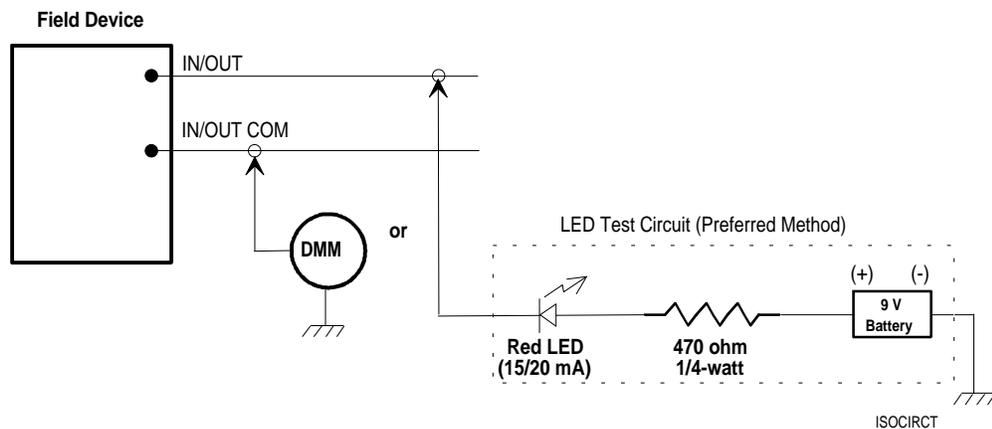

Figure 2: Testing for an Isolated Circuit
2. Before terminating the field wires to the ASC, measure the resistance of each wire to earth ground using an LED test circuit (preferred) or a DMM. For the LED test circuit, assemble the test circuit shown in Figure 2. Then, connect the circuit from each input to earth ground and then to each output to ground. For the DMM test, connect the DMM from each input to earth ground and then to each output to ground (Figure 2).